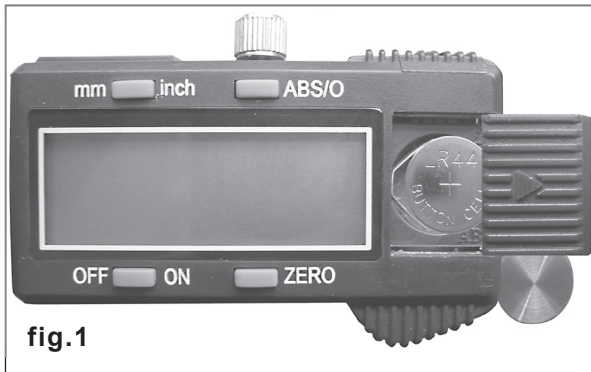

fig.1
1. Switch off and then remove battery cover (9) by firmly sliding towards the right.
2. Remove exhausted battery and fit replacement with **positive side uppermost** (fig.1). Refit battery cover.